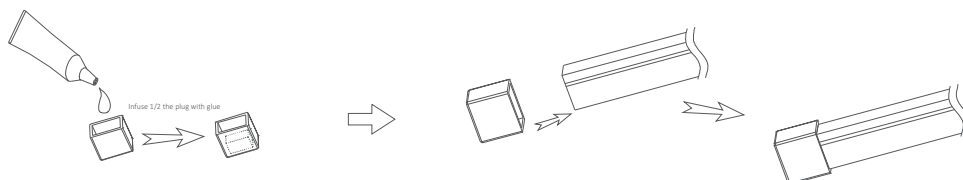

figure 4
- Infuse the plug with glue and insert the led strip into the plug, the installation is complete, as shown in Figure 4.
- Put the plug on the line, and repeat the step of glue in Figure 4, then foist the led strip into the plug, finally the installation is complete, as shown in Figure 7